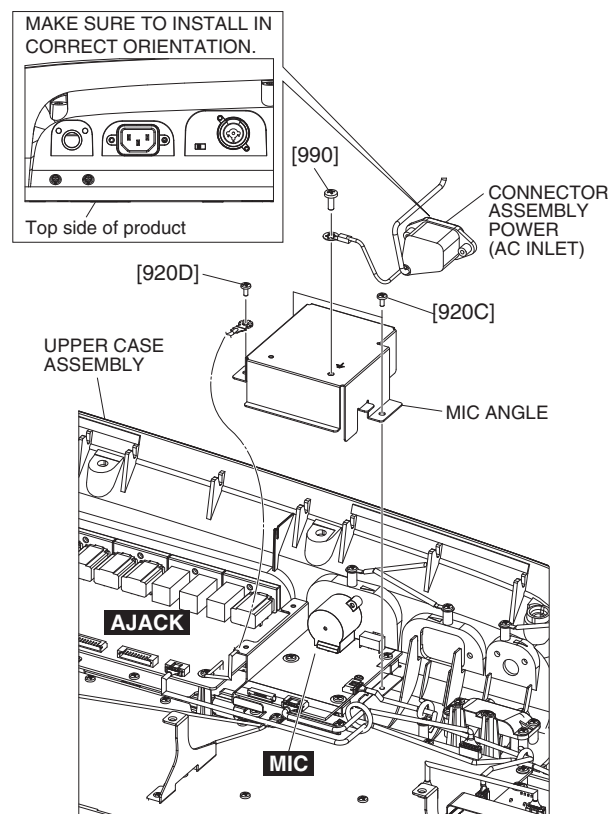
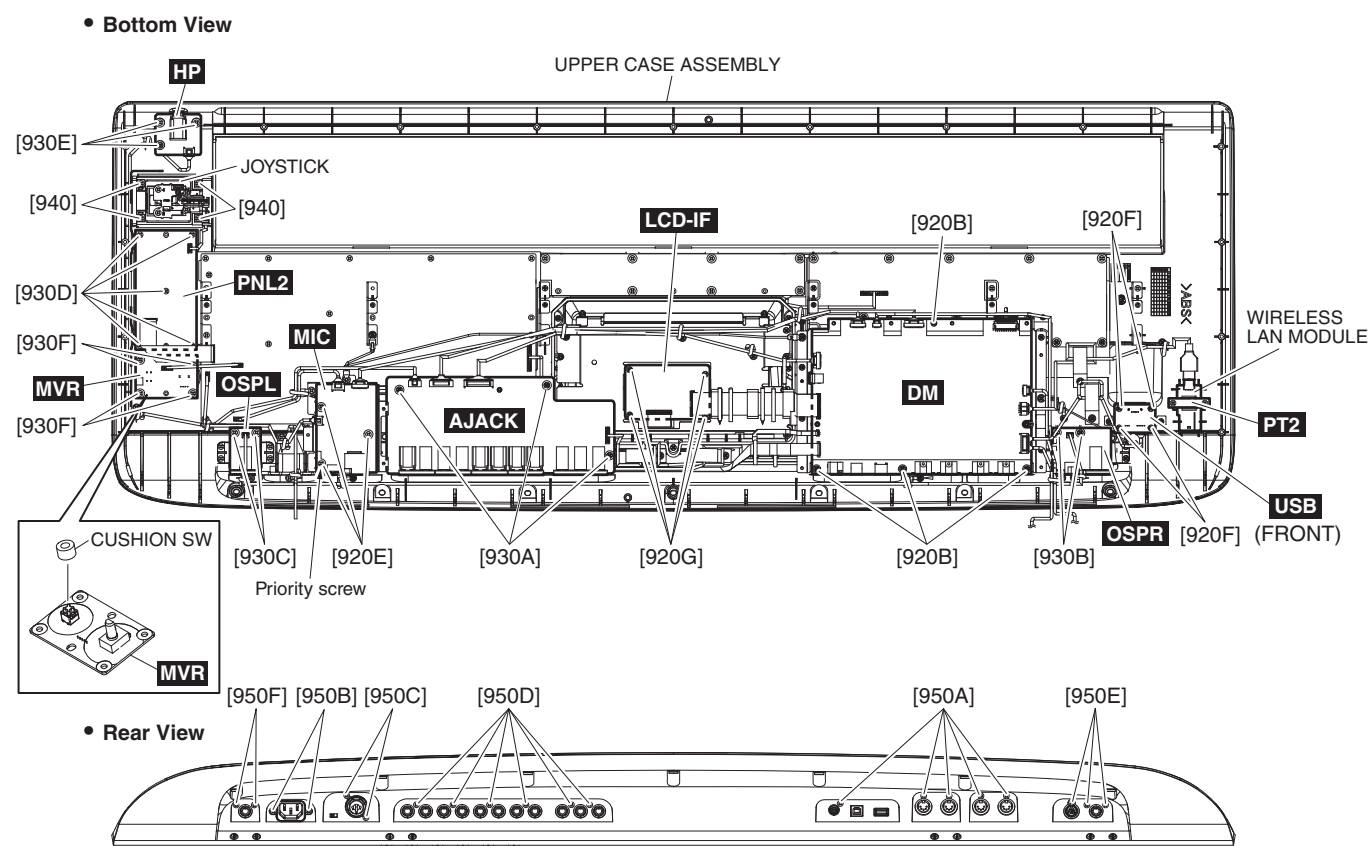

Fig. 3
Fig. 4
- 2-2 Remove the four (4) screws marked [920B] and the five (5) screws marked [950A]. The DM circuit board can then be removed. (Fig. 4)
- 3-1 Remove the two (2) screws marked [950B] and the screw marked [990]. The CONNECTOR ASSEMBLY POWER (Include AC INLET) can then be removed. (Fig. 3, Fig. 4)
- 4-1 Remove the two (2) screws marked [920C], the screw marked [920D] and the screw marked [990]. The MIC angle can then be removed. (Fig. 3)
- 4-2 Remove the three (3) screws marked [920E] and the two (2) screws marked [950C]. The MIC circuit Board can then be removed. (Fig. 4)
* When installing the MIC circuit board, tighten the priority screw marked [920E] as shown in Fig. 4.
- 5-1 Remove the screw [920D], the three (3) screws marked [930A] and the six (6) screws marked [950D]. The AJACK circuit board can then be removed. (Fig. 3, Fig. 4)
- 6-1 Remove the two (2) screws marked [930B] and the three (3) screws marked [950E]. The OSPR circuit board can then be removed. (Fig. 4)
- 7-1 Remove the two (2) screws marked [930C] and the two (2) screws marked [950F]. The OSPL circuit board can then be removed. (Fig. 4)
- 8-1 Remove the four (4) screws marked [920F]. The USB circuit board can then be removed. (Fig. 4)
- 9-1 Remove the five (5) screws marked [930D]. The PNL2 circuit board can then be removed. (Fig. 4)
- 10-1 Remove the three (3) screws marked [930E]. The HP circuit board can then be removed. (Fig. 4)
- 11-1 Remove the four (4) screws marked [940]. The JOYSTICK can then be removed. (Fig. 4)
- 12-1 Remove the four (4) screws marked [920G]. The LCD-IF circuit board can then be removed. (Fig. 4)
- 13-2 Remove the four (4) screws marked [930F]. The MVR circuit board can then be removed. (Fig. 4)
* The Cushion SW is not part of the MVR circuit board. (Fig. 4)
- 14-1 Remove the two (2) screws marked [930G]. The PT2 circuit board and WIRELESS LAN MODULE can then be removed. (Fig. 4, Photo 2)